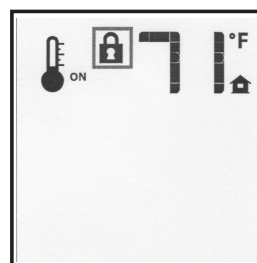

Figure 38 - Remote Control Displaying Room Temperature and "Lock" Icon
1. To activate this function, press the **MODE** key and the UP arrow at the same time. The display on the handset will change to show a "lock" icon (See Figure 38).